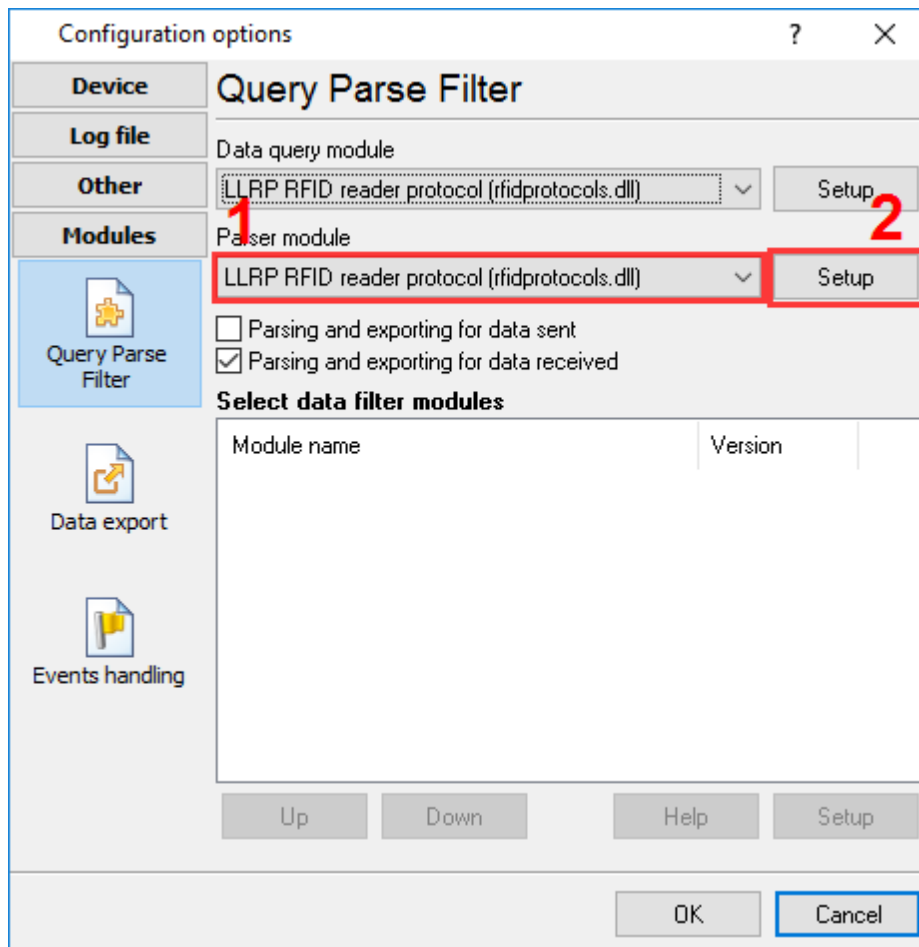

Figure 4: Selecting the parser module
Select the module from the two drop-down lists as shown in Figure 4.
5. The prepared variables are sent to each of the enabled filtering modules (see Figure 4). Note that variables for each reading are sent to the filtering modules separately from variables for other readings. If any filtering module has blocked the data, they will not be processed any more (go to Step 7).